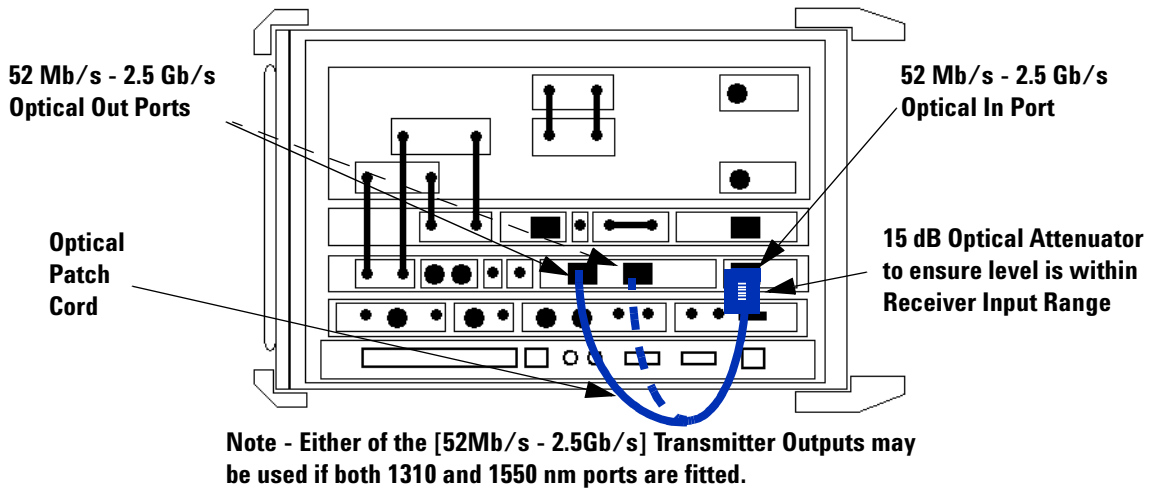

Figure 4 2.5 Gb/s Loopback Connection
- 1 Connect the J7231B OmniBER OTN as shown in below. For J7232A models (up to 2.5 Gb/s only) refer to Figure 4 for Loopback connection and proceed from step 12, ensuring Tx/Rx Coupling is set to ON as in step 3.
12 Change/make the following Optical loopback connection to check the 2.5 Gb/s interface as shown in Figure 4.